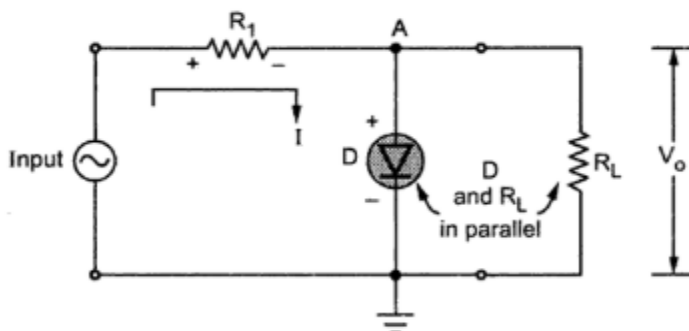

Fig. 2.18 Basic parallel clipper
- The Fig. 2.18 shows the basic parallel clipper circuit in which diode D is connected across the load resistance R_L .